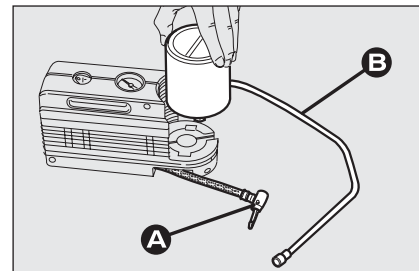

fig. 9
- disconnect connection **A-fig. 9**;